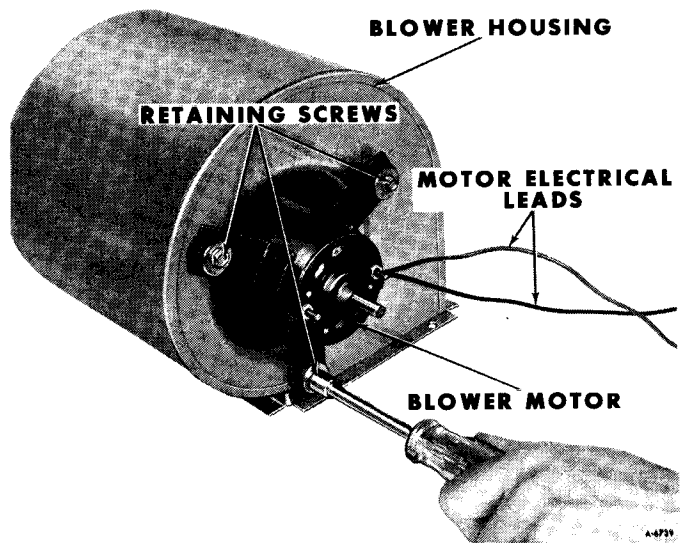

Figure 28—Removing Blower Motor Retaining Screws
8. Remove three blower motor retaining screws and washers (figure 28). Carefully remove blower motor from blower housing.
2. Install blower motor to blower housing using three retaining screws. Before installing the retaining screws check to be sure the motor is positioned as shown in figure 28, with motor electrical leads facing blower housing mounting flange.